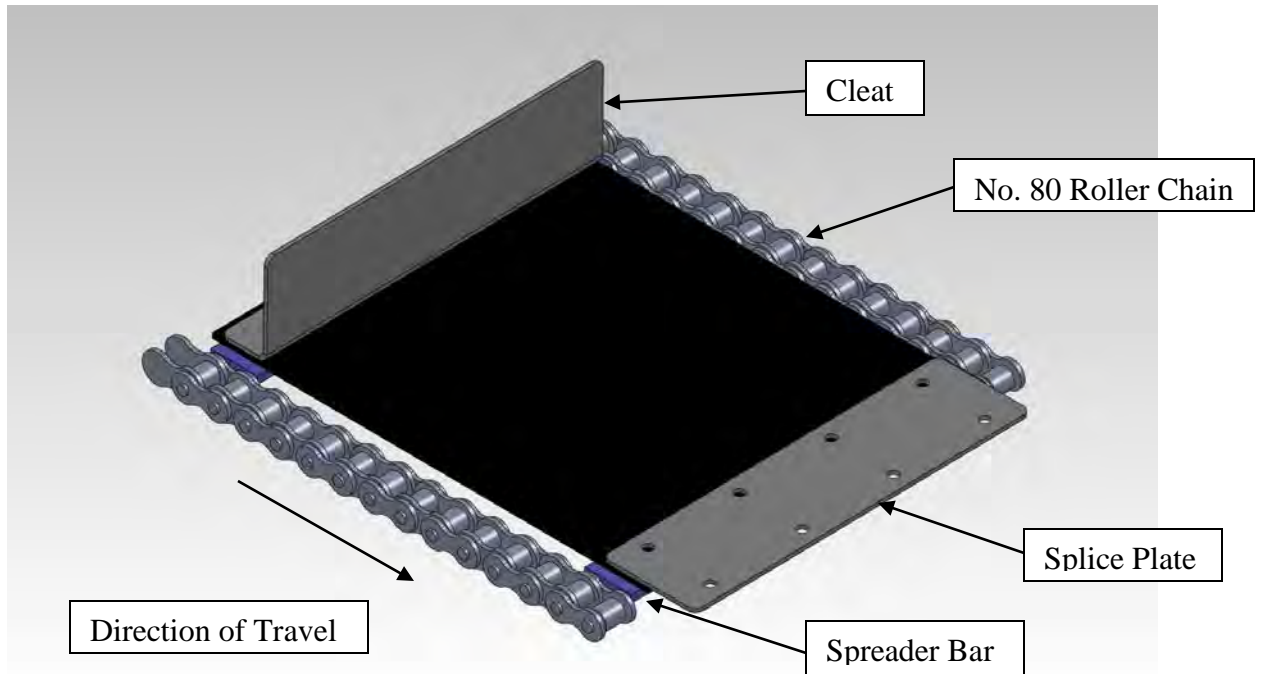

Figure 3 – Conveyor Medium
- The combo belt design consists of using two strands of No. 80 roller chain connected together with a spreader bar welded to each strand at 12.00" centers. The spreader bar has weld nuts for fastening the belt to it. The belt is a 2-ply SBR rubber. There are also cleats fastened to the spreader bars at 24.00" centers. (Figure 3)
3. Feed the belt assembly through the casing, past the tailshaft, and up the incline until it comes up to the headshaft sprockets. Insure cleats are facing correct direction. Refer to Figure 3, page 7.